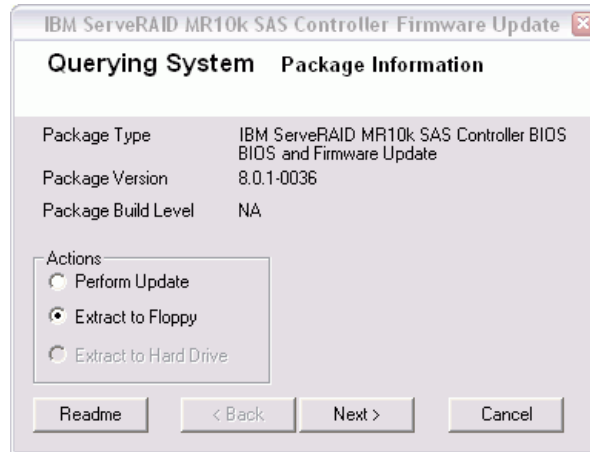

Figure 3-37 ServeRAID-MR10k code package extraction
3. Start the executable package and create three diskettes (the first is bootable) by selecting **Extract to Floppy** (in Figure 3-37 on page 151).